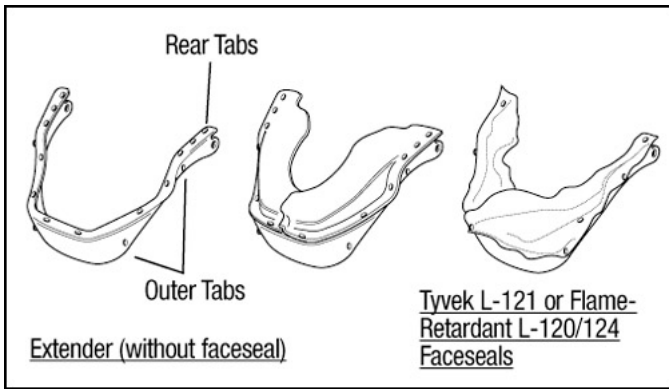

Fig. 11: Removing and Installing the Faceseal
- Unhook the face seal from the tabs on each side of the extender (Fig. 11).
- Hold the extender upside-down (Fig. 11).
- Hook the holes in the face seal over the matching tabs on the extender. The outer tabs (on the sides of the extender) and rear tabs (one on each side as shown in Fig. 11) are for attaching a flame-retardant fabric face seal.